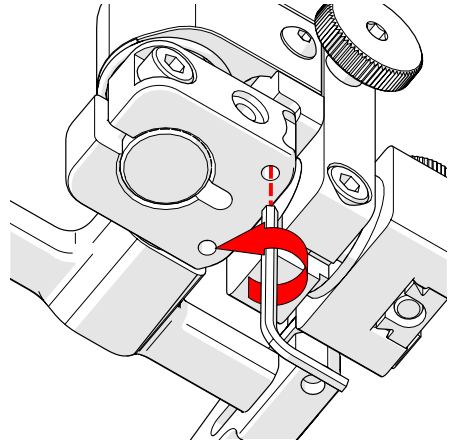

Fig. 192 - Lower 90° stop post
7. Locate the recessed M3 screw (stop post) on the bottom of the probe holder. Unscrew the stop post using a 1.5 mm hex wrench until it has cleared all obstructions. Do not remove stop post (Fig. 192).